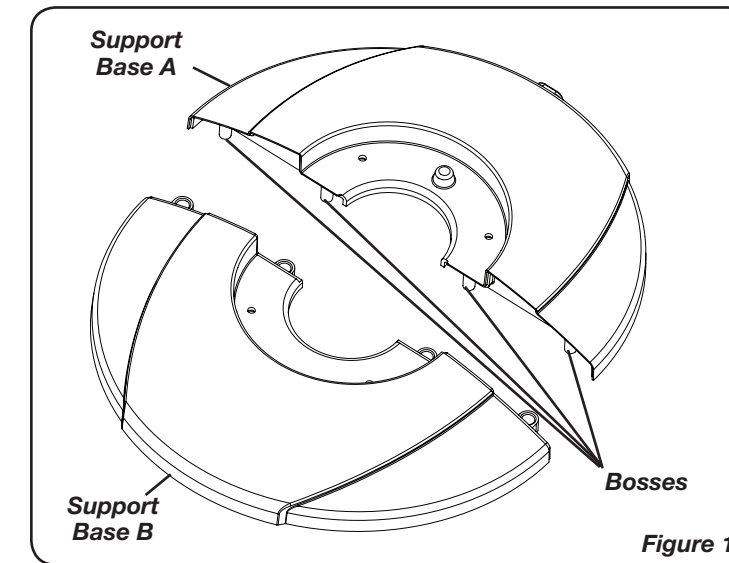
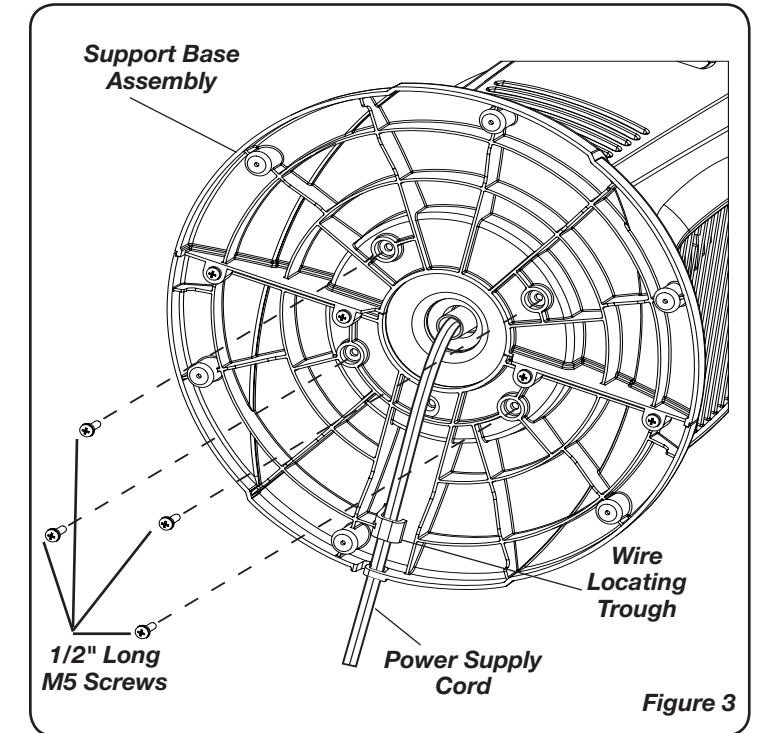

Figure 1
Figure 3
2. Assemble the Support Base Halves by interlocking the Bosses on Support Base A into the Boss Holes on Support Base B. Thread the Power Supply Cord through the large hole in the center of the Support Base Assembly. (Figure 1)
4. Align the Support Base Assembly with the Motor Base, noting that the cord channel on the bottom of the support base assembly should be towards the back of the Fan. Attach the Support Base Assembly to the Motor Base with (4) 1/2" Long M5 Screws. Make certain to align the Pin on the Support Base Assembly with the Locating Notch on the Motor Base. (Figure 1) Gently pull any excess slack of the Power Supply Cord and place it in the Wire Locating Trough. (Figure 3)